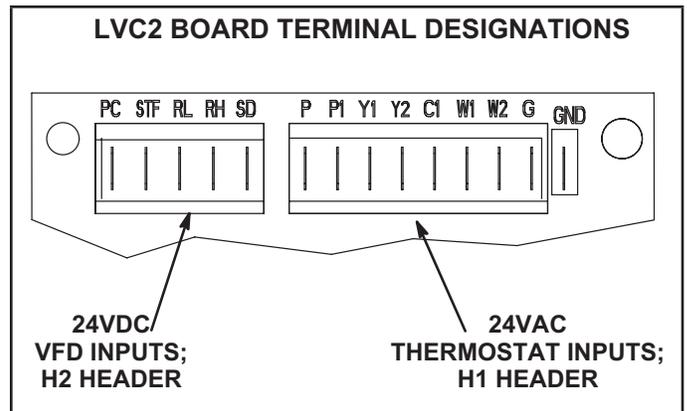

**FIGURE 37**
To save energy during ventilation, the blower speed can be set to low. This is accomplished by changing the ventilation speed switch on the VFD control board to "LO". See FIGURE 37.
To maintain required minimum ventilation air volumes when the unit is in the occupied mode, two minimum damper positions must be set. A high and a low speed potentiometer are provided on the VFD control board to adjust minimum damper position. See FIGURE 37.
- 5 - Check the power LED on the board. See FIGURE 37.